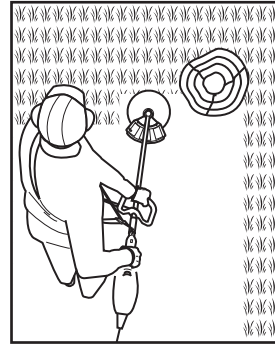

Fig. 21
5. Move the product with a slow regular arc from left to right before moving it back to the starting position before trimming the next area (Fig. 21).